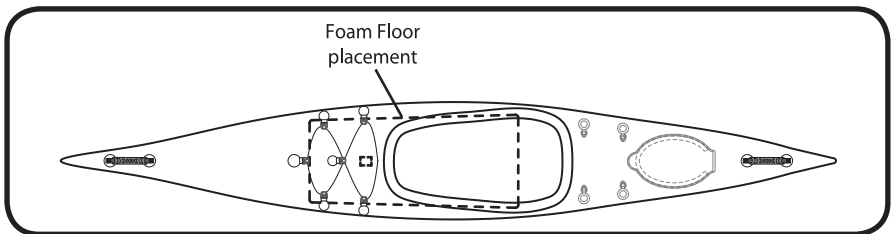

Figure 3
3. Install the Foam Floor. The Foam floor should be placed with the wider end at the cockpit. You can use the front thwart alignment line, printed on the inside of the kayak, to align the front end of the floor. Make sure that the Velcro loop on the hull of the kayak comes up through the hole in the floor. **See Figure 3.**